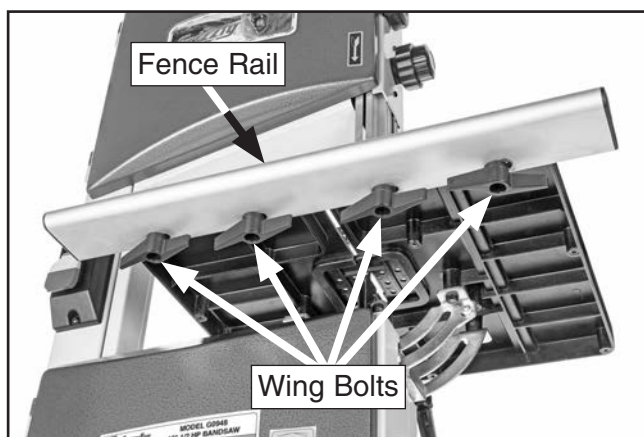

Figure 17. Fence rail attached to front of table.
12. Attach fence rail to front of table with (4) M8-1.25 x 18 wing bolts (see **Figure 17**).